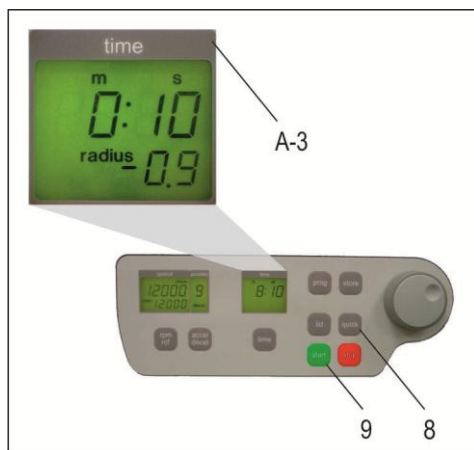

Figure 26
For all number marked text, please refer to Figure 26.
With the "stop" key (10), the run time can be interrupted, at any time, (see Figure 26). After pressing the key, the centrifuge decelerates with the respective pre-selected intensity, down to a standstill.